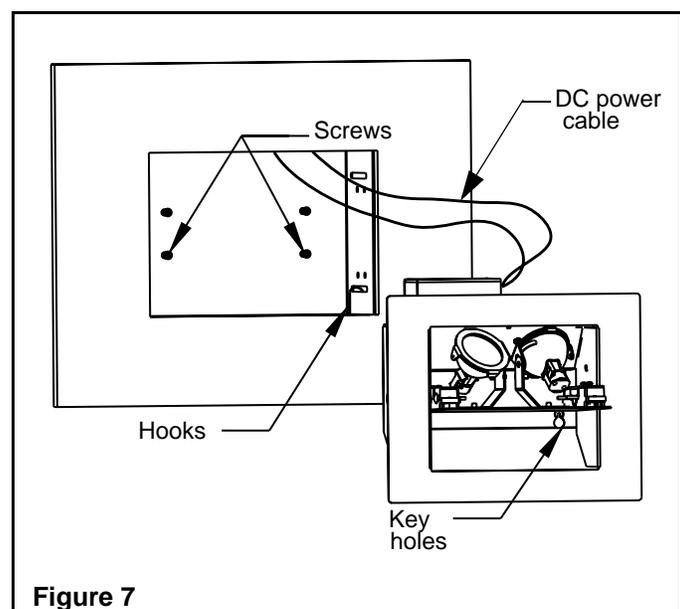

Figure 7
7. Hold the lamp module. Disengage the hooks and leave it hooked in the wall, on the "U" bracket, for future utilization (see Figure 7).